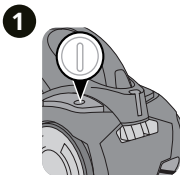

Figure 1
1. Switch off the appliance after vacuuming shown in figure 1.